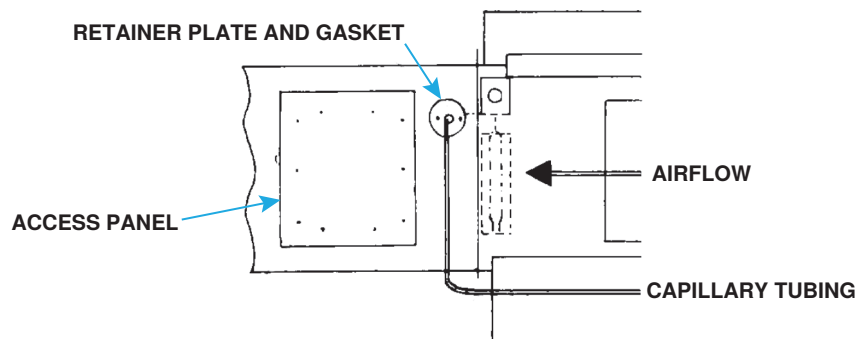

Figure 12. Capillary Sensor Installation
- (2) At selected ductwork location, mark and cut 1/2-inch hole that will be sealed with gasket and retainer plate (see Figure 12). Push sensor and capillary tubing through hole.
- (3) Remove ductwork access panel (see Figure 12) and install sensor in sensor holder so that it senses air temperature as it flows through holes in holder.
- (4) Position sensor holder and junction box assembly inside ductwork so that sensor will be shielded from direct airflow and secure junction box to ductwork using four field-supplied #6 sheet metal screws.
- (5) Slide gasket (cut slit) and retainer plate over capillary tubing. With gasket next to ductwork, install hole retaining plate and secure using field-supplied sheet metal screws.
- (6) Close ductwork access panel.